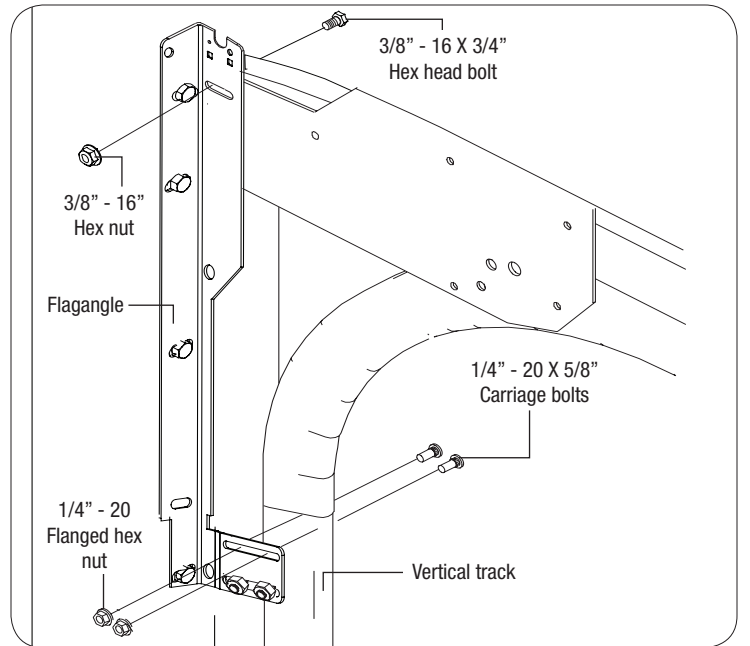

FIG. 4.1
Secure the horizontal track to the corresponding flagangle with (2) 1/4" - 20 x 5/8" carriage bolts and nuts. Level the horizontal track and secure the upper curve to the flagangle using (1) 3/8" - 16 x 3/4" Hex Head Bolt, and (1) 3/8" - 16 hex nut, as shown in **FIG. 4.1**.